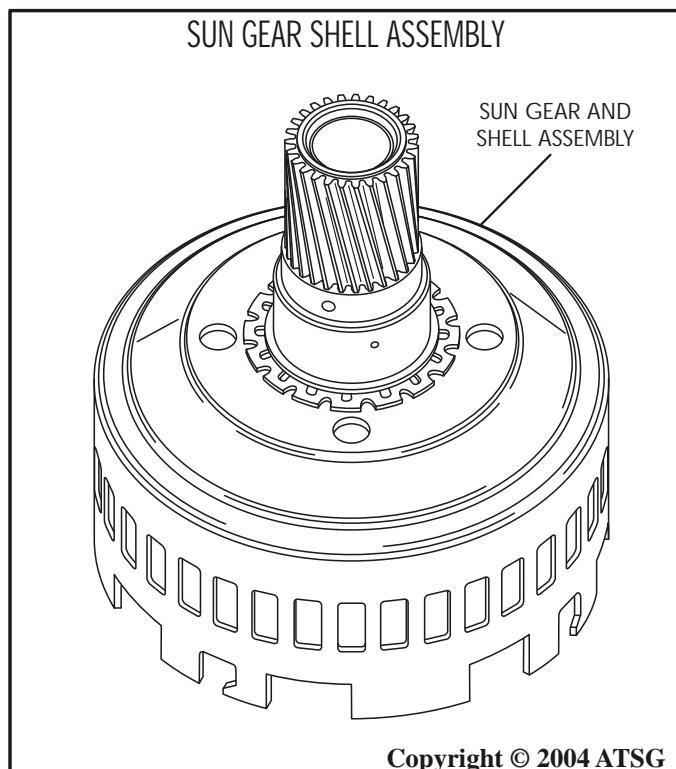

Figure 105
1. The sun gear and shell cannot be disassembled. Refer to Figure 105.